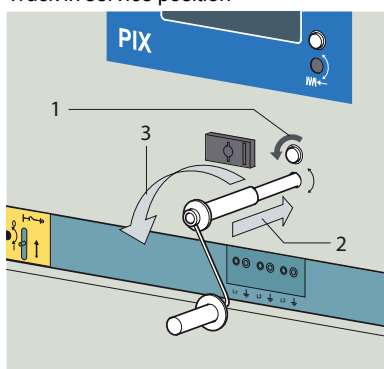
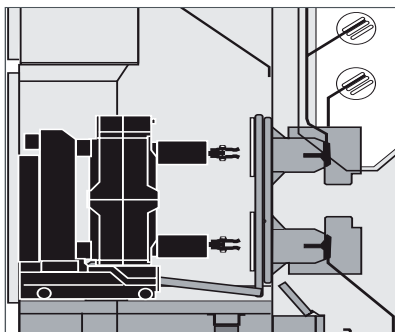

Fig. 10.25
Fig. 10.26
- Open cover (Fig. 10.25, 1) and insert crank (2).
- Turn crank counter-clockwise (3) until the truck has been racked out. Remove crank.
- Check position of truck (Fig. 10.26) through the inspection glass.